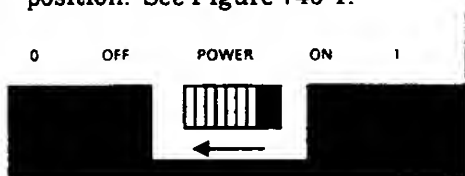

Figure 740-1 PC-8300 Power Switch
1. Make sure the power switch located on the right side of the PC-8300 is set to the OFF position. See Figure 740-1.